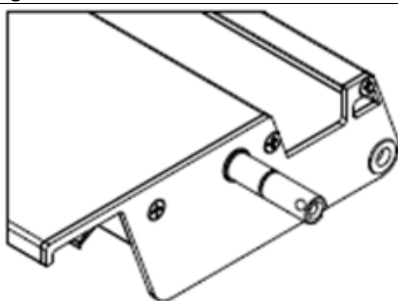

Fig. 14
13. The assembly of the blades should begin with the insertion of the two drive blades (17). These are in packet no. 7 and have different pins on the drive side - the thread inside the pin (fig. 14) .